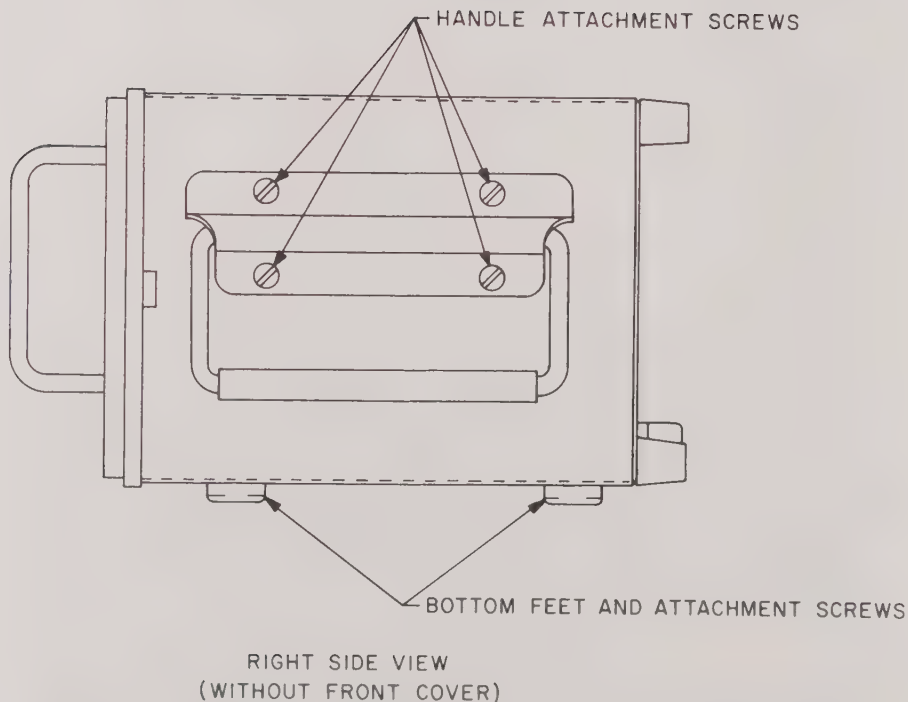

Figure 16. Assembly/Disassembly Screw Locations
- 1) Remove the screws from the side and bottom of the Model 43-01. Refer to Figure 16.